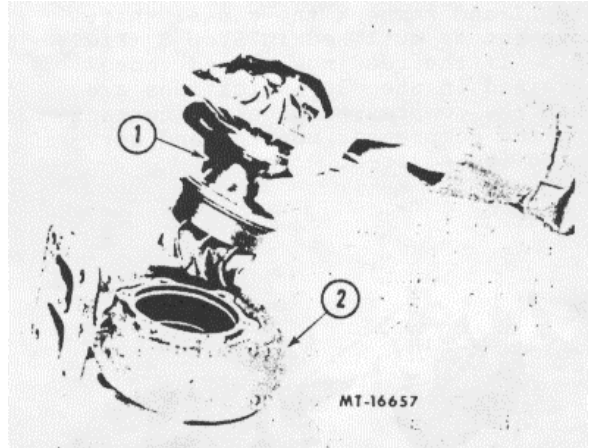

Fig. 13. Removing Center Housing From Turbine Housing
5. Straighten tabs on the lock plates and remove capscrews, lock plates and clamps securing the center housing to the turbine housing. Carefully lift the center housing assembly from the turbine housing (Fig. 13). A light tapping with a rubber mallet on turbine housing mounting flange may be necessary as lifting pressure is applied.